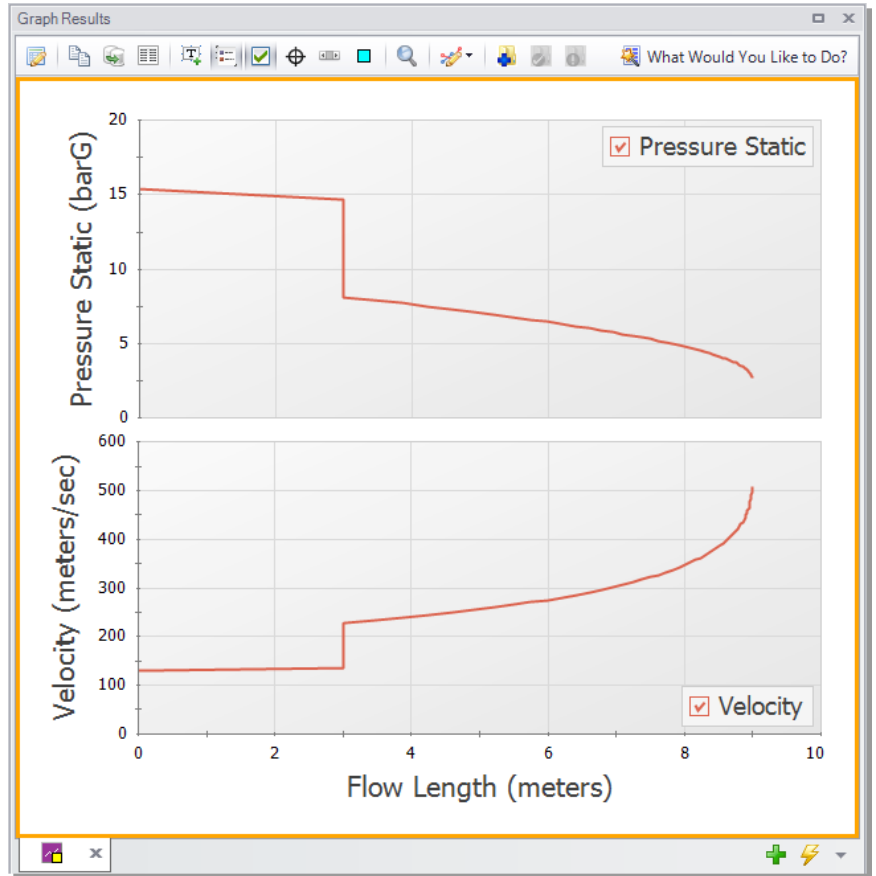

Figure 2.23 The Graph Results window showing a graph of the static pressure and velocity along the entire length of the pipeline
- Click the **Generate** button to create the stacked pressure and velocity graphs, shown in Figure 2.23. Note that the total static pressure loss across the orifice is approximately 6.6 bar.